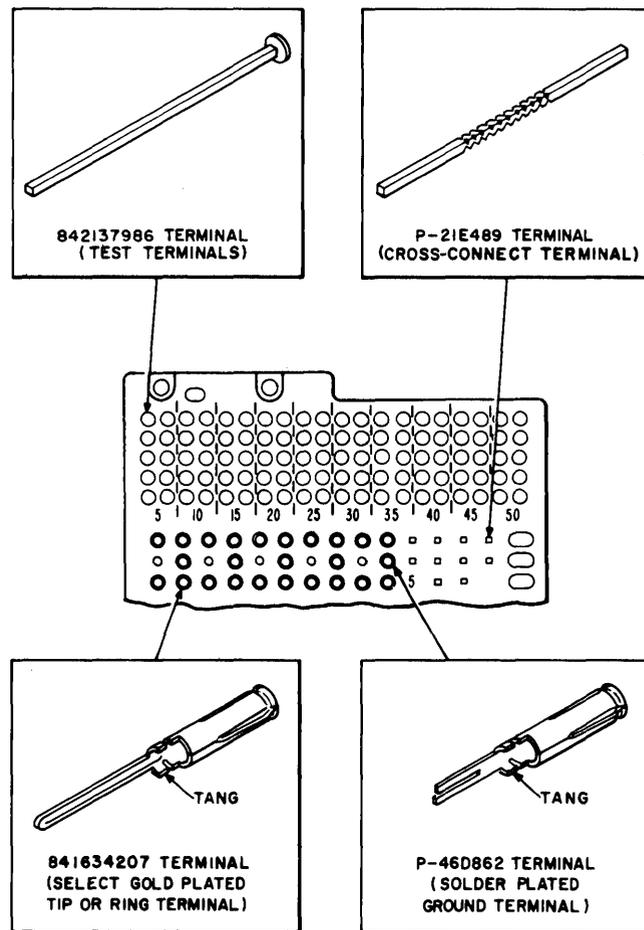

Fig. 1—303-Type Connector, Front Side
- (1) On the wiring side of the connector, use a soldering copper and remove all solder from the terminal to be replaced.
- (2) Using B long-nose pliers, close the tangs on the damaged or broken terminal or break the terminal flush with the back side of the connector panel. Remove the terminal from the front side of the connector panel.
4.03 842137986 Terminal (Fig. 1 and 2)
- (1) From the wiring side of the connector, tag and remove the leads from the terminal to be replaced.
- (2) Using a new terminal or a sharp instrument, such as a test probe, push the broken terminal through the connector about 1/8 inch.
- (3) From the test contact side of the connector, grasp the terminal head with the B long-nose pliers and pull the terminal from the block.
4.04 P-21E489 Terminal (Fig. 1)
4.07 841634207 Terminal (Fig. 1)
4.09 842137986 Terminal (Fig. 1 and 2)
4.10 P-21E489 Terminal (Fig. 1)